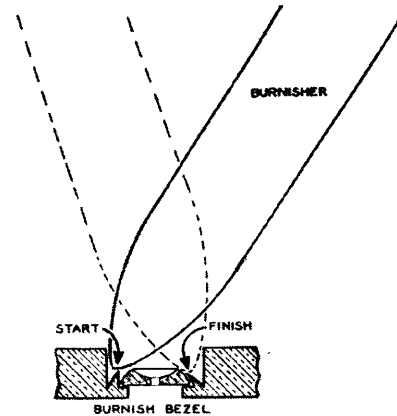

FIG. 12-20
11. It is good practice to run a burnisher around edge of bezel (figure 12-20).
8. Place train jewel in seat (figure 12-20).
9. Figure 12-20 illustrates a hard steel burnisher used to force bezel over jewel. The solid lines of burnisher illustrate the bezel at the start and the dotted lines illustrate the burnisher and the bezel which is now tight against the jewel.